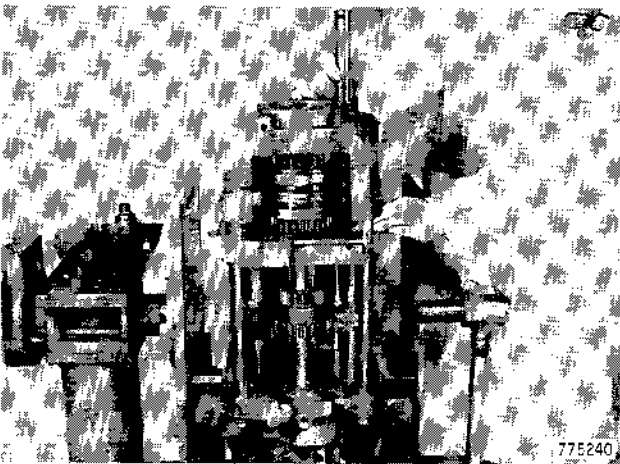

Figure 314
16. Install counter gear shaft, Figure 314.